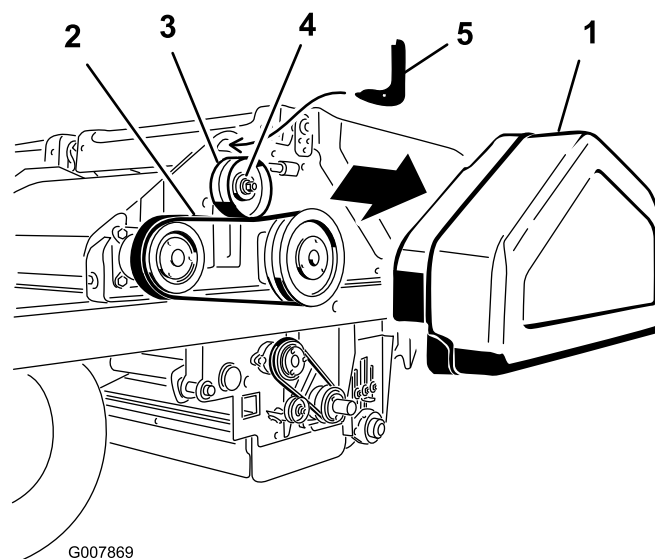

Figure 58
1. Remove the belt cover (Figure 58).
2. Loosen the nut on the idler pulley (Figure 58).
3. Insert the hook end of belt tensioning tool into the hole above the idle pulley (Figure 58).
5. Insert the drive of a 1/2 inch torque wrench into the hole in the belt tensioning tool (Figure 58).
6. Rotate the tool toward you until it is torqued to 345 kPa (50 psi), then, while holding the torque, tighten the idler pulley nut (Figure 58).